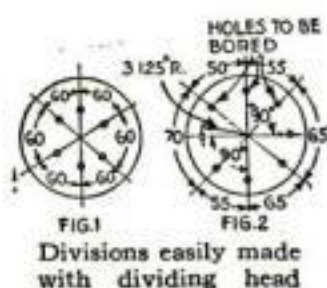

FIG. 1
**A** CIRCLE can be divided easily into degrees or fractions of degrees. Figures 1 and 2 are typical examples. The layout in Fig. 1 may be expressed as 6 equal divisions that are equal to 60 degrees each (360 degrees divided by 60). In this case we would follow the same procedure as for the gear problem.